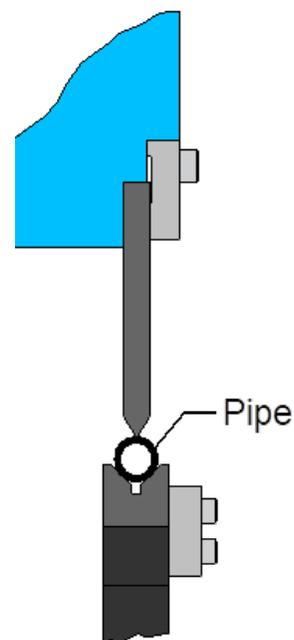

Figure 18-1
3. Place a straight piece of .5" to .75" (12.7 to 19mm) diameter tubing (approx.) 42" (1067mm) long in the brake die "V"- groove as shown in (fig.18-1.)